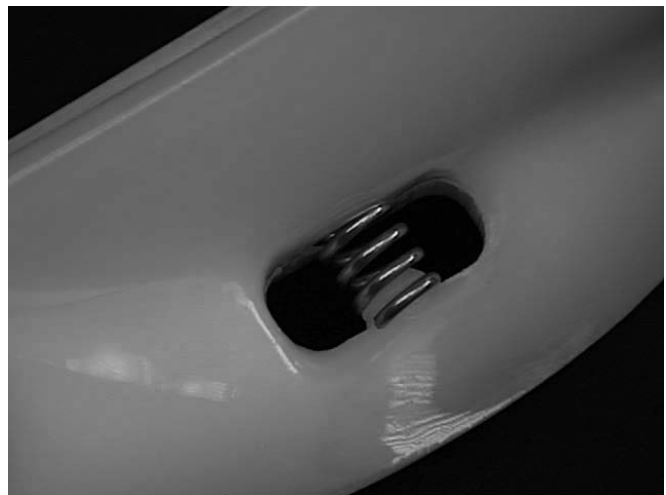

Figure 3-8 Spring Installation
- E. Screw the springs onto the studs in plastic flights. Spring must be screwed into the flights completely to provide proper tension (see Figure 3-8).